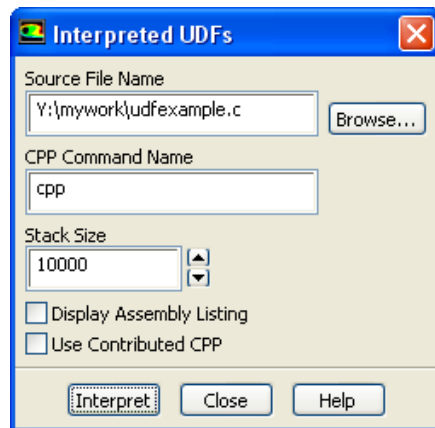

Figure 4.2.1: The Interpreted UDFs Dialog Box
4. Interpret the UDF using the **Interpreted UDFs** dialog box (Figure 4.2.1).
In the **Select File** dialog box, select the desired file (e.g., `udfexample.c`) and click **OK**. The **Select File** dialog box will close and the complete path to the file you selected will appear in the **Source File Name** text box in the **Interpreted UDFs** dialog box (Figure 4.2.1).